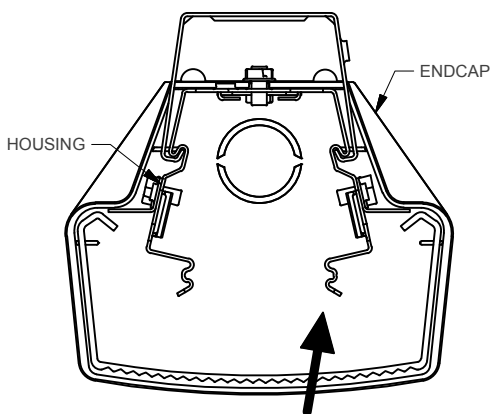

FIGURE 2: BOARD CARRIER
- 6) Snap in 4' LED board by inserting driver cover into the housing. Then start one side of board into groove and snap LED board into housing by pushing opposite of board until it snaps into place (See Figure 2).